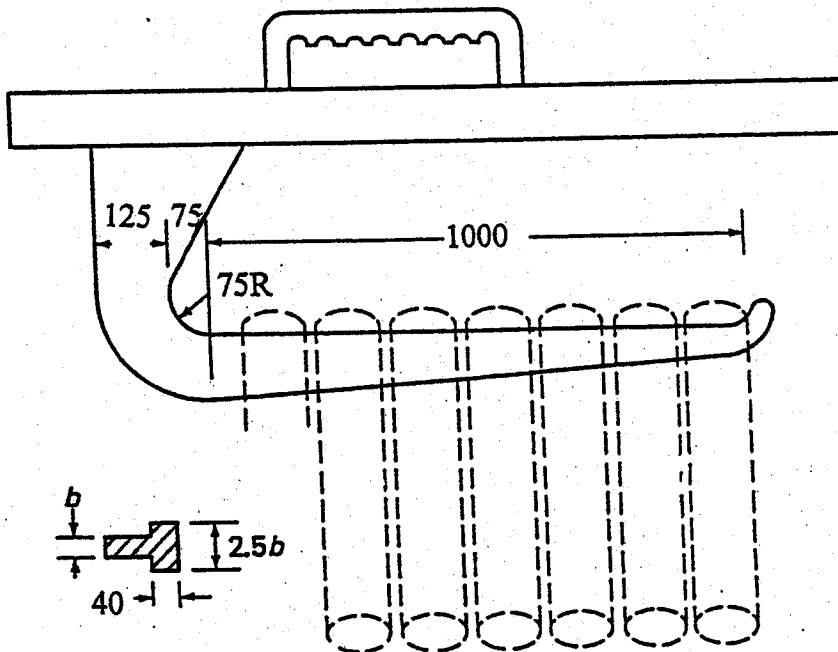

Figure 7b
- (b) The C hook or "hairpin" hook shown in Figure 7b is used in rolling mills for lifting and transporting large coils of wire and rods. The hook of a crane is put into one of the notches of the top piece or "eye". Its location is selected according to the number and position of the coils, such that the hook tilts slightly counterclockwise. With the dimensions shown and with a stress of 140 MPa and a uniform distribution of coils along the 1 metre length, what would be the web width b of a T cross section for a capacity of 2500 kg? Assume that the acceleration due to gravity is 9.81 m/sec^2 . (14)